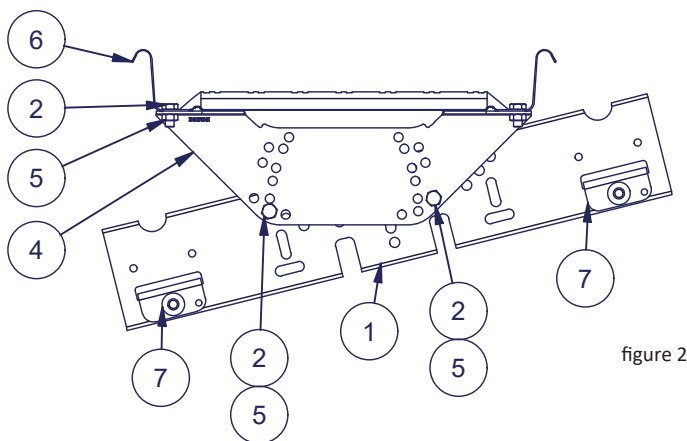

figure 2
Inclination adjustment plates (4) are attached to the MultiFast fasteners with two M8x16 mm hexagon bolts and M8 hexagon nuts. Inclination adjustment plate is used to adjust the roof walkway horizontally (0° - 14°). Attach the roof walkway to the inclination adjustment plate by using two M8x16 hexagon bolts and M8 hexagon nuts (figure 2).